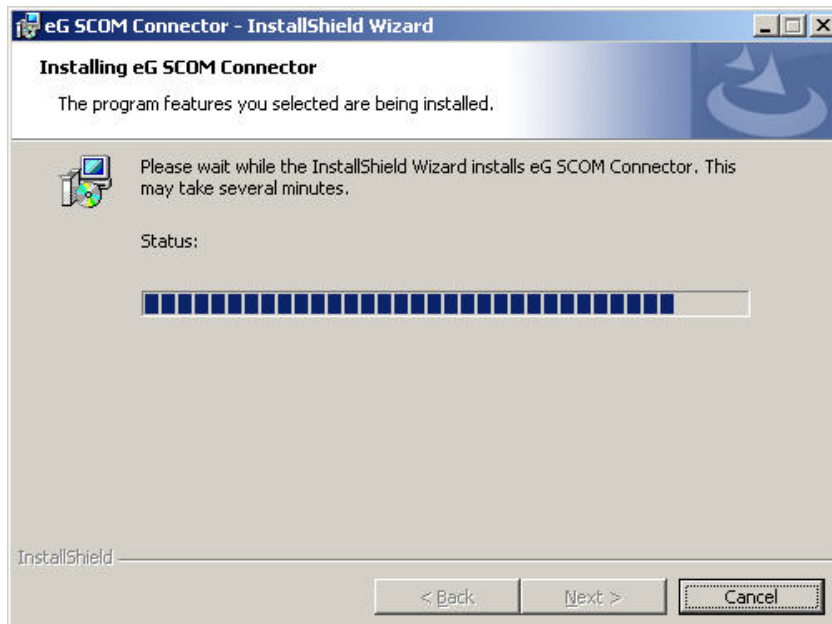

Figure 3.6: Progress of the installation
9. Figure 3.6 will indicate the progress of the installation to you.